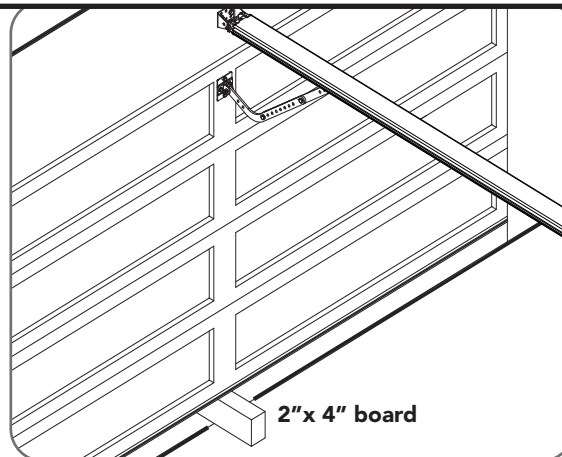

Fig.6.5.2
- Place an object approximately 1-1/2" (38mm) high (or a 2"x 4" board laid flat) on the floor directly under the door, **Fig 6.5.2**.